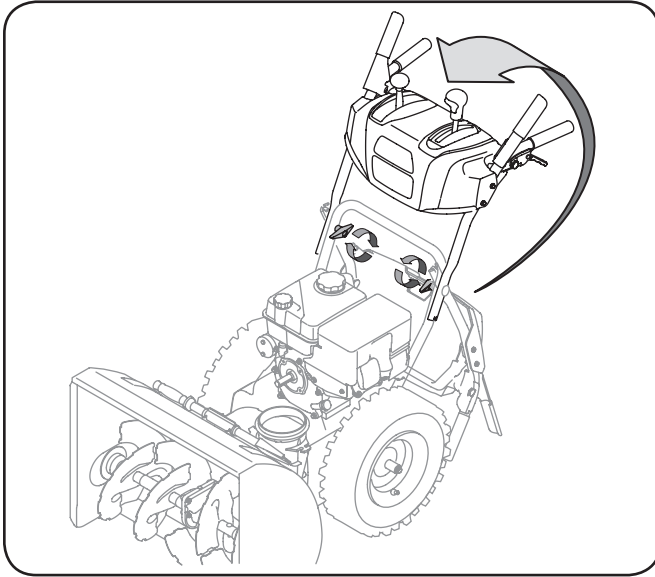

Figure 3-1
2. Observe the lower rear area of the snow thrower to be sure both cables are aligned with roller guides before pivoting the handle upward. See Fig. 3-1.